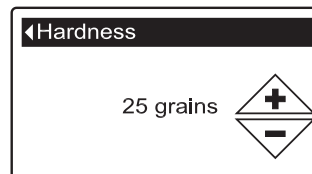

FIG. 37
5. Press the SELECT (O) button to display the Hardness screen (See Figure 37).